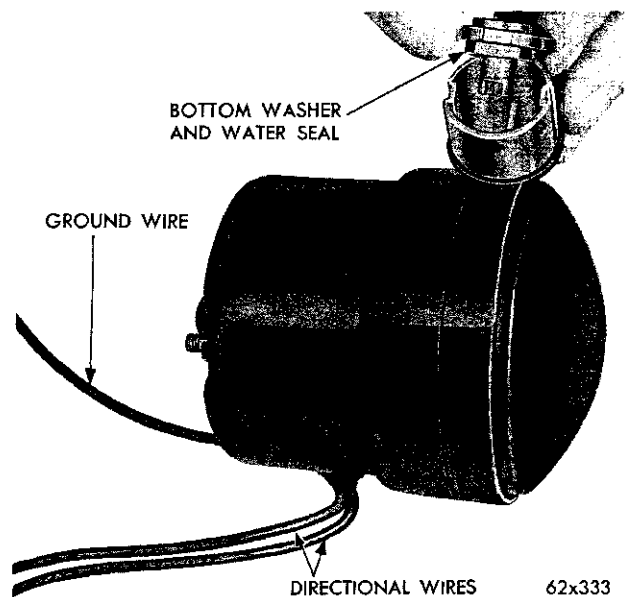

Fig. 8—Removing Bottom Insulator and Water Seal Washer
(7) Remove the "bottom insulator" and "water seal washer" (Fig. 8) from the "tubular fitting" using a wire hook and long nose pliers.